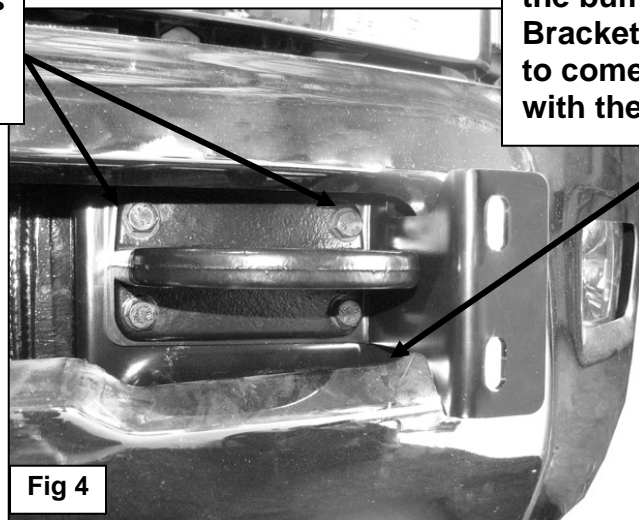

Fig 4
3. Remove the driver side tow hook, **(Figure 2)**. **NOTE:** The factory hex bolts and nuts securing the inner (2) tow hook bolts may be difficult to remove. Assistance is recommended. Use a socket with a long extension to reach the hex nuts on the inner tow hook bolts. Once the tow hook has been removed, **(Figure 3)**, select the Driver Side Top Mounting Bracket and place it between the tow hook and the frame. Secure the tow hook and Top Bracket to the vehicle with (4) 10mm x 45mm Hex Bolts, (8) 10mm Flat Washers, (4) 10mm Lock Washers and (4) 10mm Hex Nuts, **(Figure 4)**. Snug but do not tighten hardware at this time.